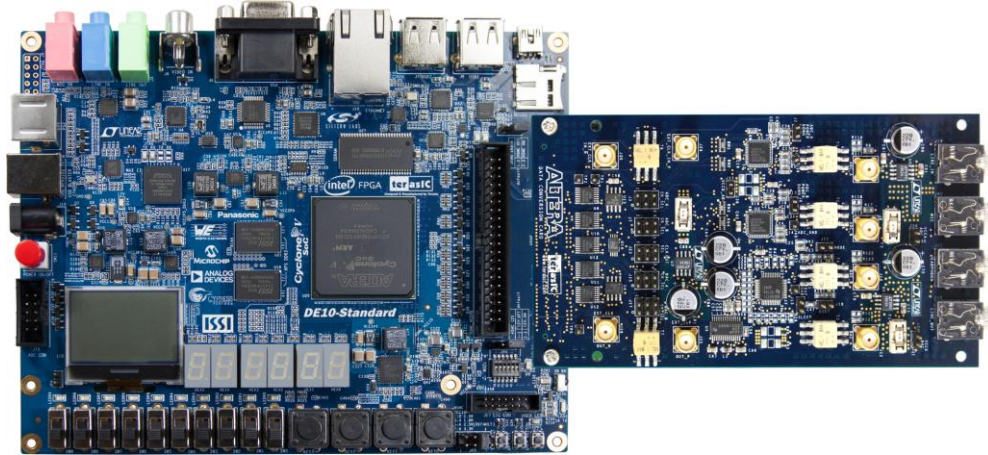
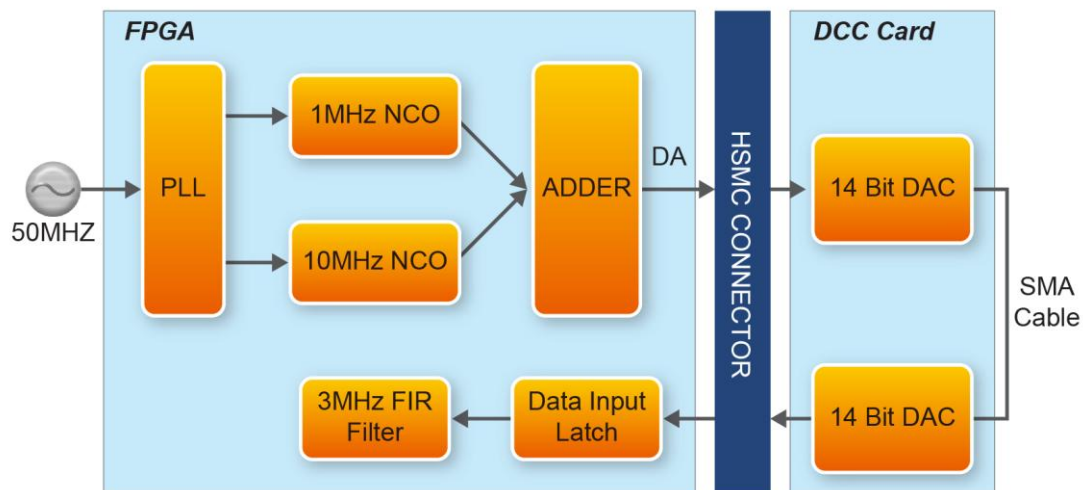

Figure 1 DCC Demo
Figure 3 System Block Diagram
This document illustrates how to setup the DCC demo on the DE10-Standard and the DCC(Data Conversion HSMC Daughter Board) as shown in **Figure 1**. The basic design content is also included. In this demonstration, please refer to the DE10-Standard user manual. For details about the DCC, please refer to the user manual of Data Conversion HSMC daughter card.
7. By switching the “SW0” on the DE10-Standard board in the “UP” position, it sets the data format in the A/D converter to “binary format”. Leaving the “SW0” in the “DOWN” position, will generate the data format in ‘Twos complement’ as shown in **Figure 1**.
**Figure 3** shows the system block diagram of DCC demonstration. The Data Conversion HSMC daughter board reference design contains two sine waves that are generated by two instances of the Altera numerically controlled oscillator (NCO) MegaCore. One of these oscillators is running at 10 times the frequency of the other, but both of them have the same amplitude with each one covering 13 bits of dynamic range. From these blocks, the two sine waves output are converted from two's complement binary to unsigned binary format which then are added together. The combined sine wave signal of 14-bits dynamic range is sent to a 14-bit D/A converter. The analog output of a D/A converter is connected via SMA cable with the analog input of a 14-bit A/D converter. The A/D converter's digital output is looped back to the FPGA device. The A/D is configured by the dip switches to deliver the data in unsigned format. The converted loopback data is captured by an instance of the SignalTap® II logic analyzer in the design for 3 display and analysis. **Figure 1** shows a high-level view of the reference design and how it interacts with the D/A and A/D converters on the Data Conversion HSMC.